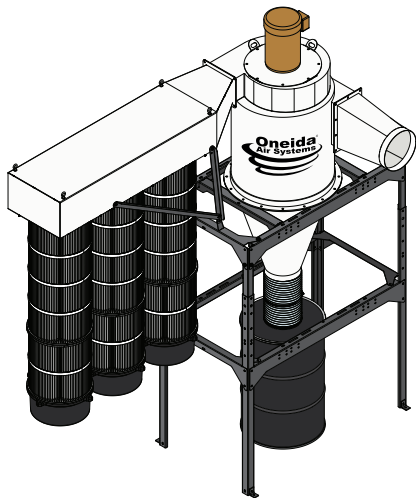

FIG. 1a
- Determine the location and orientation for your installation, taking careful note of which direction the dust collector's inlet and filter plenum will be facing [FIG. 1a].